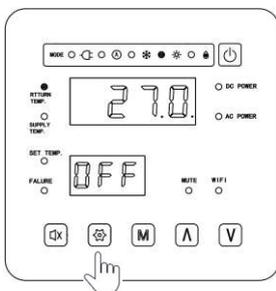

Fig.9 Entering setting interface
- In the main interface, short press “” for entering the user setting interface. After selecting parameter group "UU" by short pressing “” or “”, click “” to enter WIFI network function, while the WIFI indicator blinking (Fig.9~11);